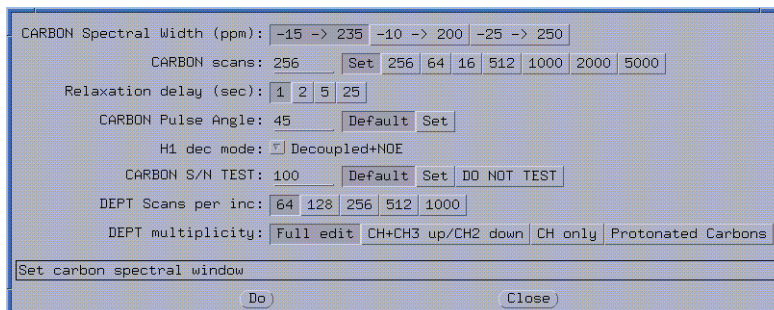

Figure 16. GLIDE Customize 13C and DEPT Acquisition
1. Click the **Acquire** button to open the Acquisition Options window (Figure 16).